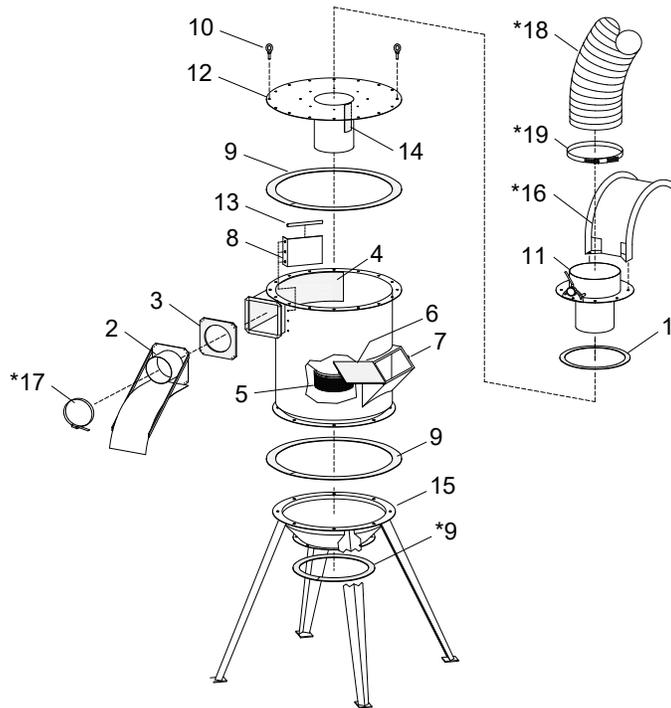

Figure 53
**9.13 1200 CFM Reclaimer, for 16" Diameter Blast Machine – Figure 53**